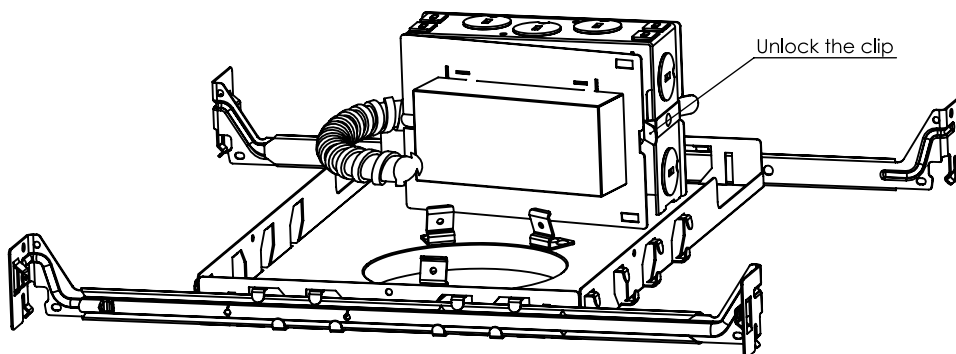

Figure 1
1. If replacing from below the ceiling, remove adjustment or downlight module from fixture by loosening (3) socket head screws (round fixtures). Screws must be gradually loosened in an alternating pattern to prevent binding of the module.
4. Unlock the enclosure that contain the driver through the ceiling opening. (Figure 1)